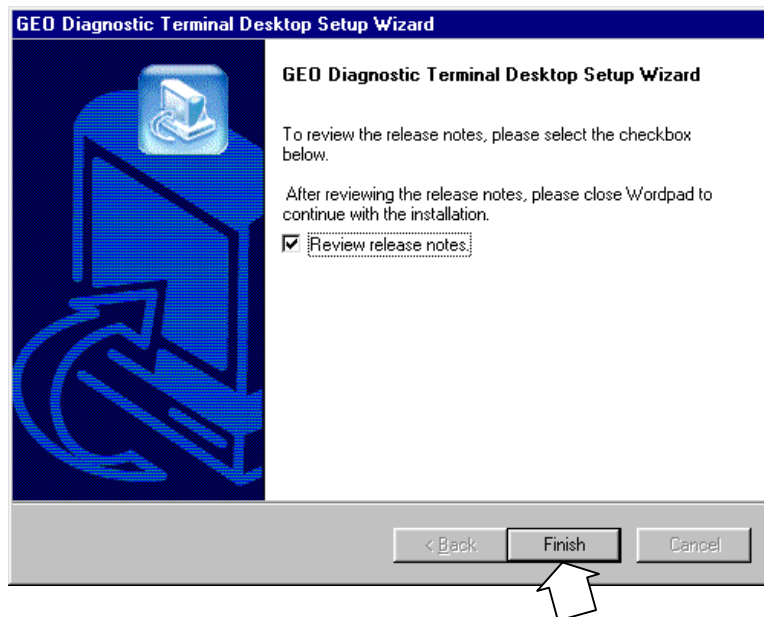

Figure 2-8
13. The “GDT Release Notes” window (figure 2-8) is displayed after the files are loaded. To review the release notes, verify the box is checked (or uncheck box to not review release notes), and click on **Finish**.